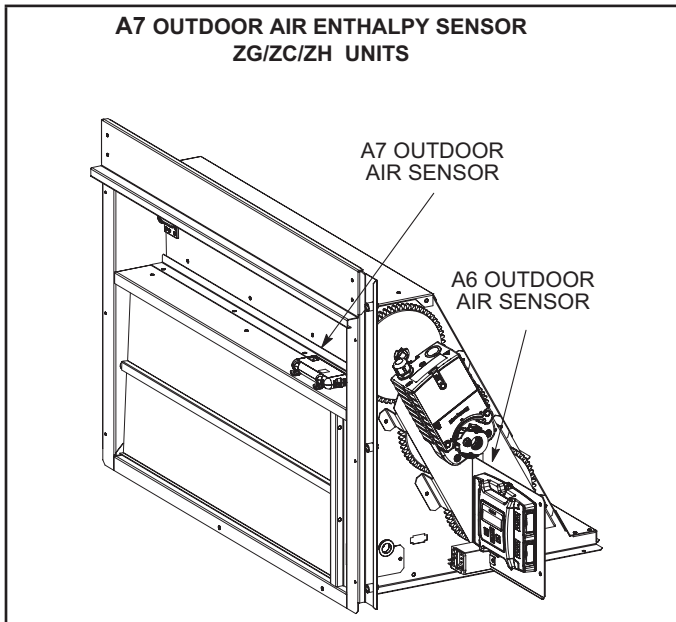

FIGURE 2
- 4 - Replace existing RT26 OA sensor with new A7 sensor from this kit. See figure 2 for sensor location.
- 4 - Replace existing RT26 OA sensor with new A7 kit sensor set to "OA". See figure 2 for sensor location.